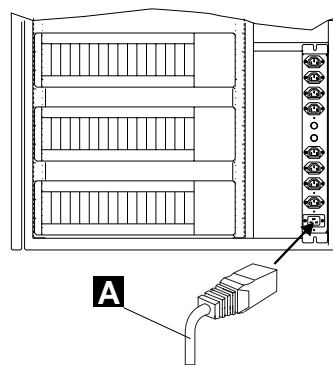

Figure 1-37. Power Cord for Power Strip
23. ____ If it is not already plugged, connect the main power cord **A** coming from the ac outlet distribution box to the customer receptacle (refer to Figure 1-37).